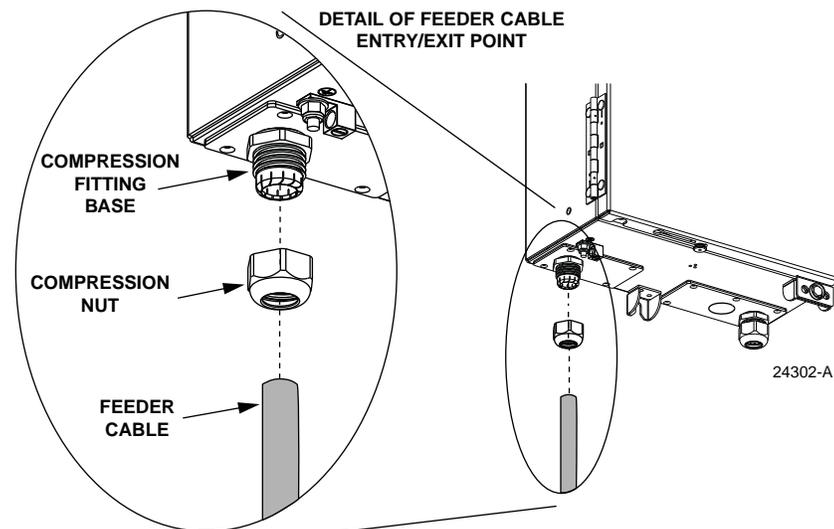

Figure 14. Feeder Cable Compression Fitting
1. Locate the compression fitting (on the bottom of the cabinet) that is specified for feeder cable installation as shown in Figure 14.